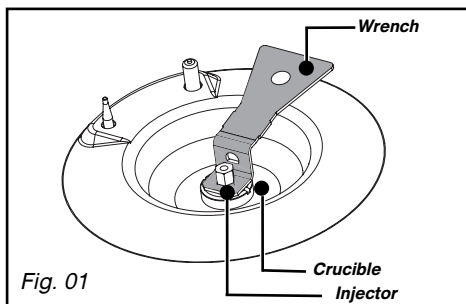

Fig. 01
- Using the wrench provided, unscrew the injectors located under each crucible and remove them (Fig. 01).